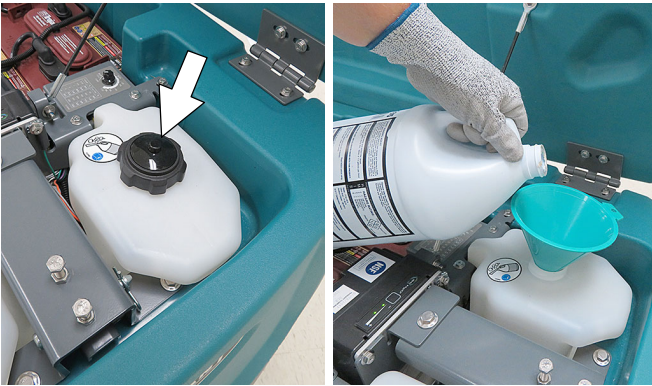

FIG. 28
2. Remove black cap from detergent tank and add a recommended cleaning detergent at full concentration (Figure 28). Do not add water. Use a funnel to prevent splashing liquid on scrub head motors below.